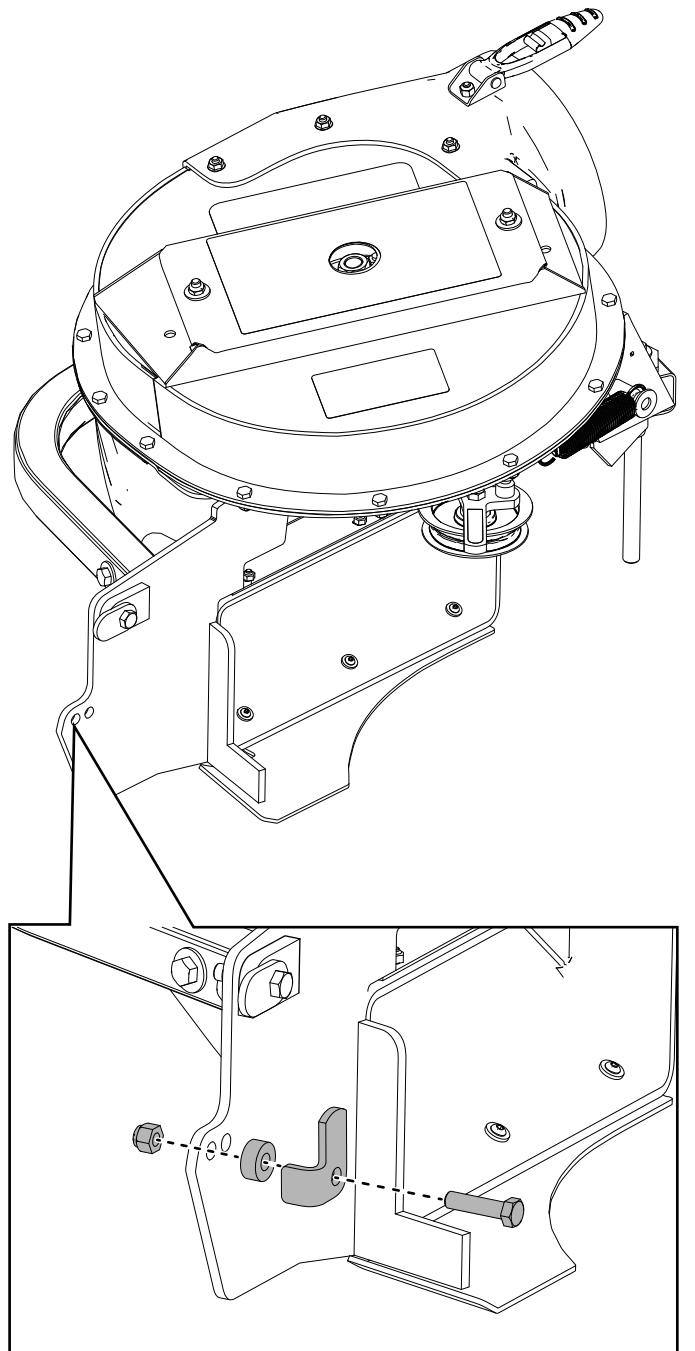

Figure 32
3. Secure the latch to the blower assembly using the hex-head bolt (3/8 x 1-1/2 inches), spacer, and locknut (3/8 inch) as shown in Figure 31 and Figure 32.